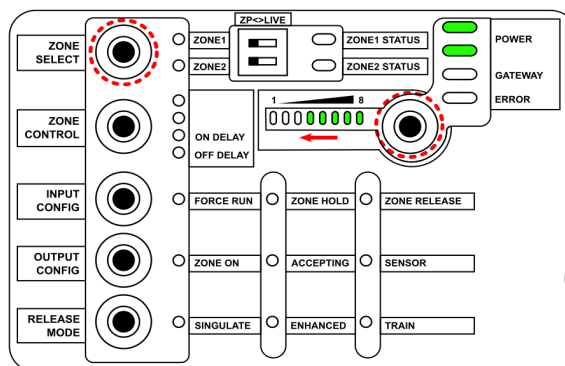

Figure 3: User Interface multi-card programming operation button sequence
1. Press and hold the ZONE SELECT button and ZONE CONTROL parameter adjustment button (shown in Figure 3). The eight level indicators will illuminate one at a time from right to left until all eight are lit, then the ZONE SELECT indicators on all connected cards will start flashing.